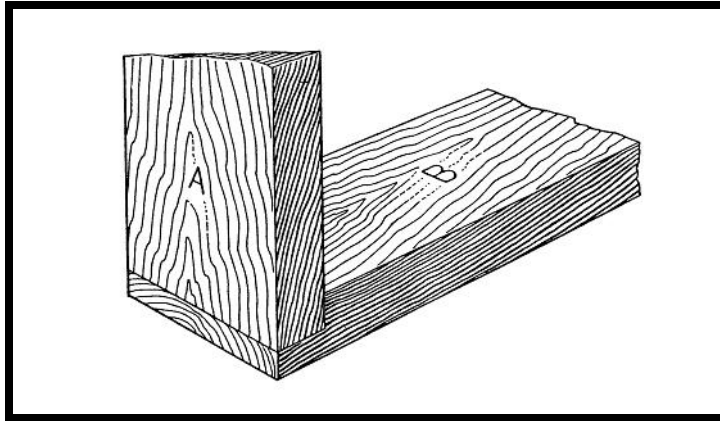

Figure 3.6
3.6 **Figure 3.6** shows a rebate joint.